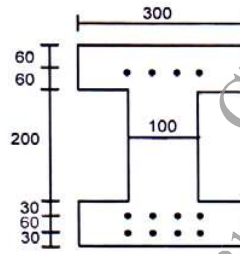
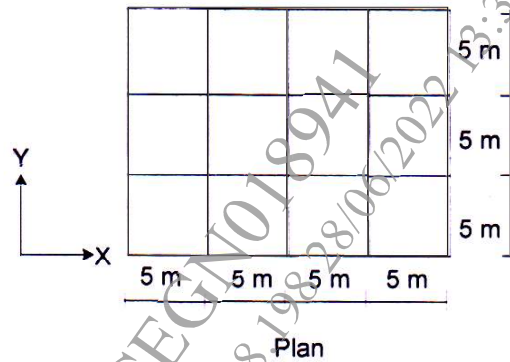

Fig. 1
Fig.2
- b) The permissible compressive stress in concrete is 14 MPa and permissible tensile stress in concrete is 1.4 MPa. A pre-stressed concrete beam is pre-stressed with 12 wires of 3 mm diameter as shown in Fig. 2. The wires are subjected to a pre-stress of 1000 MPa. Neglecting all the losses, determine the total sagging moment that can be applied to the beam during service stage. The cross section of the beam at mid span is as shown in the Fig. 1. [6]
b) Determine the seismic forces in X and Y direction at each floor level for the residential RCC structure of 12 m height shown in the Fig. 2. The building is located in seismic zone V. The soil conditions are medium stiff. The special moment resisting RC frames are in-filled with brick-masonry. The lumped weight due to dead loads may be taken as 12 kN/m^2 . The floors are to cater a live load of 4 kN/m^2 on floors and 1.5 kN/m^2 on the roof. Consider floor height as 3 m. [8]